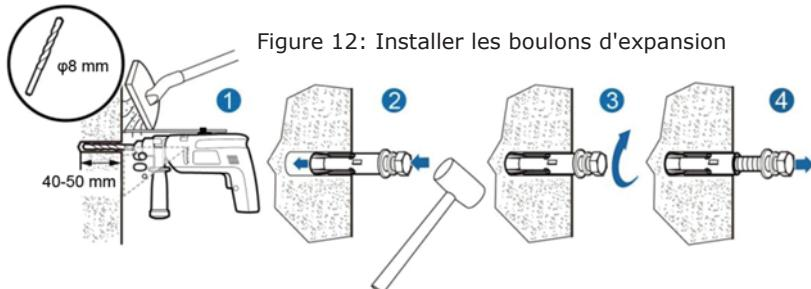

Figure 12: Installer les boulons d'expansion
- (3) Fix the expansion bolts to the 4 installation holes with hammer, as shown in Figure 12.